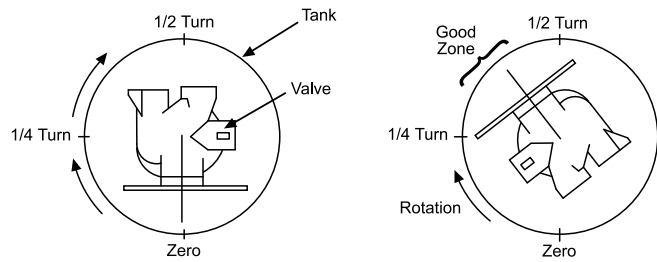

Figure 6
3. Rotate the valve clockwise from zero, between 1/4-turn and 1/2-turn (see "Figure 6").